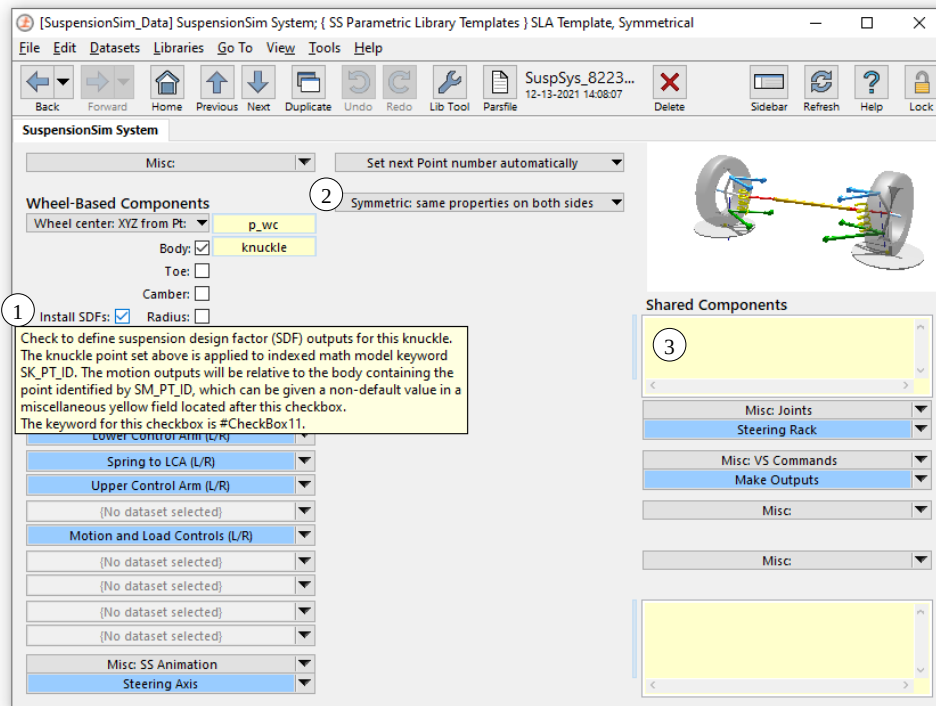

Figure 6. SuspensionSim System screen showing tool tip for the new Install SDFs checkbox.
The SuspensionSim System library screen has a new checkbox in the **Wheel-Based Components** column, **Install SDFs** ①, Figure 6. The checkbox installs outputs for the left, right, or both wheels, depending on the symmetry options ②. This checkbox can be used to activate the new SDF output variables described in the following section.
default value, it can be set anywhere after the checkbox, such as the miscellaneous yellow field on the SuspensionSim System screen ③, Figure 6.